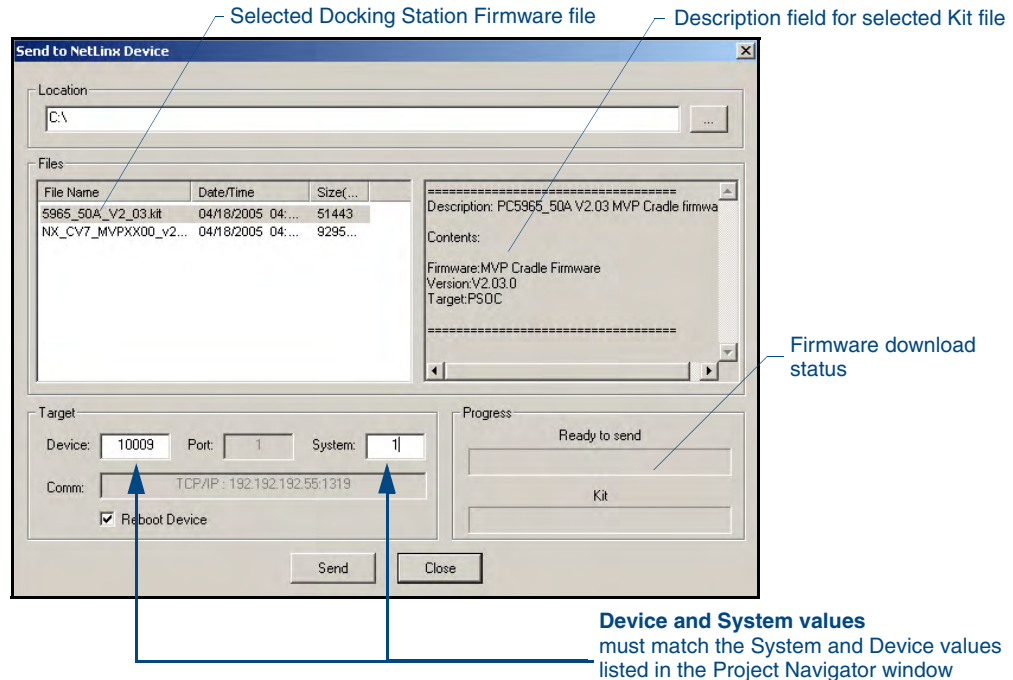

FIG. 3 Send to NetLink Device dialog (showing docking station firmware update via USB)
7. Select **Tools** > **Firmware Transfers** > **Send to NetLinx Device** from the Main menu to open the Send to NetLinx Device dialog (FIG. 3). Verify the panel's System and Device number values match those values listed within the System folder in the **OnLine Tree** tab of the Workspace window.
8. Select the docking station's Kit file (*ending in VXX.kit*) from the **Files** section (FIG. 3).